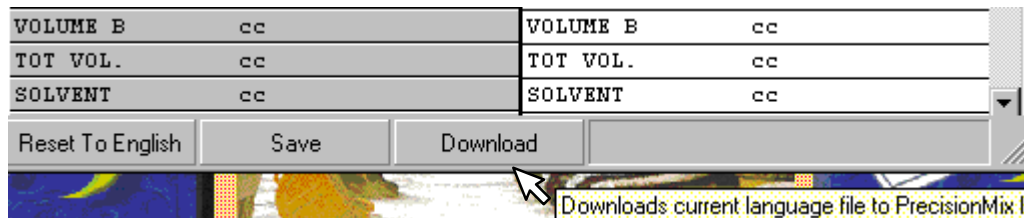

Fig. 13.65
8. Download the language file for the Run Screen Monitor by pressing the Download button. See Fig. 13.65.